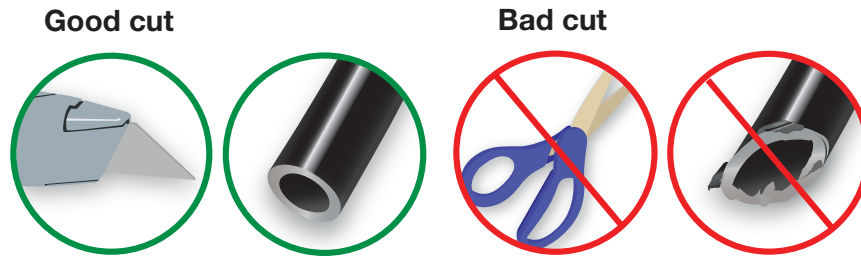

fig. 6
5. Route air line to inlet port of the compressor. Measure and cut squarely to appropriate length (Fig. 6). Make sure when routing you keep away from sharp edges and you allow for proper bend radius to avoid kinking.
Use a sharp knife or a hose cutter and make clean, square cuts (Fig. 6). Do not use scissors or wire cutters because these tools will deform the air line. Do not cut the lines at an angle. The minimum bend radius for 1/4" air line is 1" (25mm). Air lines are to be installed straight into fittings. Inspect the air line for scratches that run lengthwise. Contact Air Lift customer service if the air line is damaged.